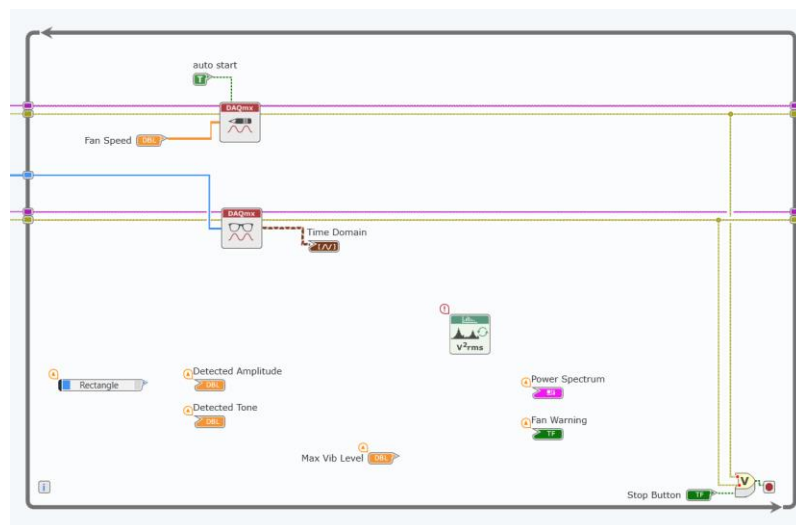

Figure 7-33 The FFT Power spectrum will calculate the frequency spectrum during the acquisition.
3. Place the FFT Power Spectrum VI in the position shown in Figure 7-33, leave the default configuration as-is (Power Spectrum; Continuous).